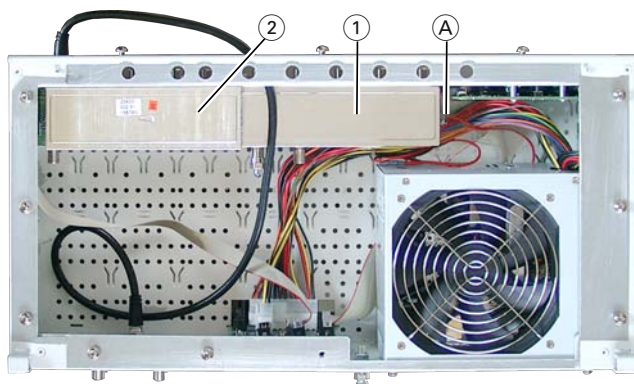

Fig. 3
- Insert the SAT IF input distributor (1) above the output collector (2) according to fig. 3 so that the LNB power connection (A) is facing the control panel.